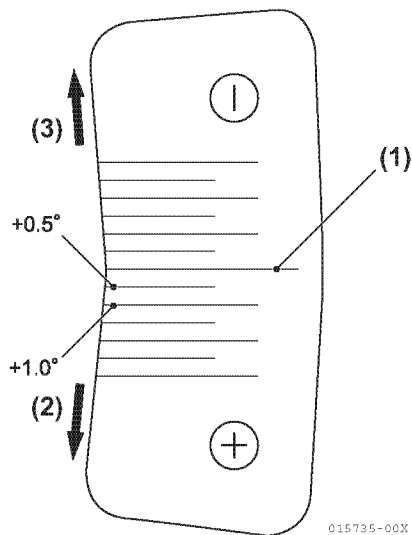

Figure 6-72
- If the difference between the timing index numbers is a positive (+) number, the fuel injection pump mounting position must be advanced (**Figure 6-72, (2)**) (rotated away from the engine) as compared to the “standard mark” (**Figure 6-72, (1)**) by the calculated positive (+) amount, adjust the fuel injection pump to the calculated value.
- If the difference between the timing index numbers is a negative (-) number, the replacement injection pump must be retarded (**Figure 6-72, (3)**) (rotated toward the engine) by the calculated negative (-) amount.
The above calculated difference indicates that the replacement fuel injection pump is to be installed at +0.5° (advanced) from the “standard mark” (**Figure 6-72, (1)**) on the timing sticker.